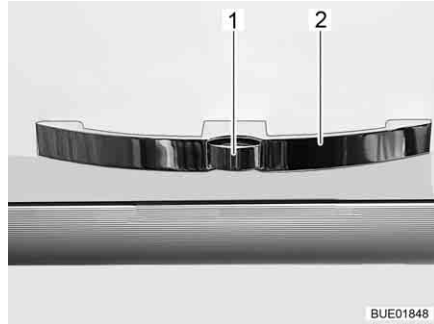
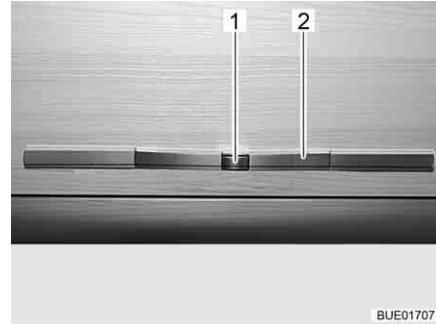

Fig. 57 Furniture flap with handle (example)
Fig. 58 Furniture flap with handle (alternative)
- Press the release knob (Fig. 57,1 or Fig. 58,1) on the handle (Fig. 57,2 or Fig. 58,2) and hold it down.